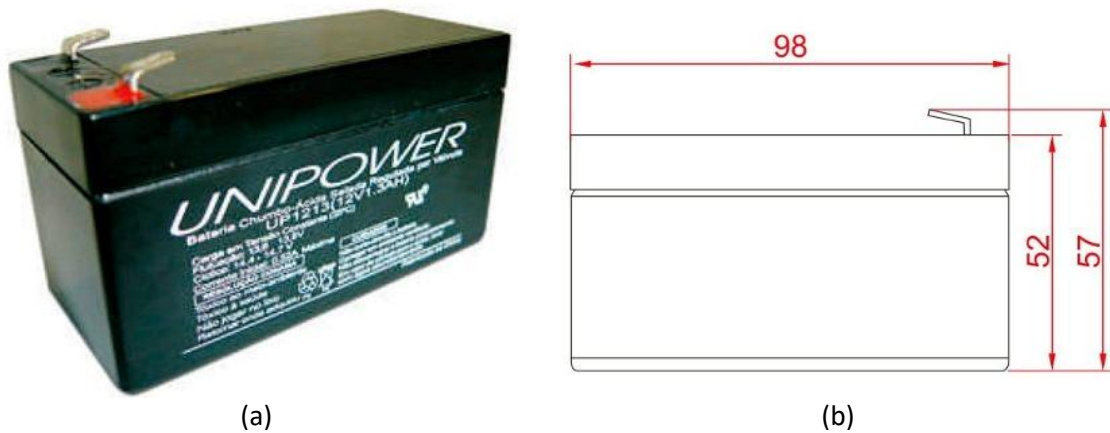

Figura 1
- Bateria Unipower UP-1213 12V 1.3-AH (Figura 1)